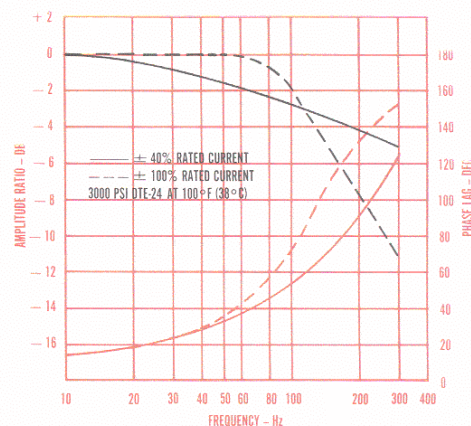
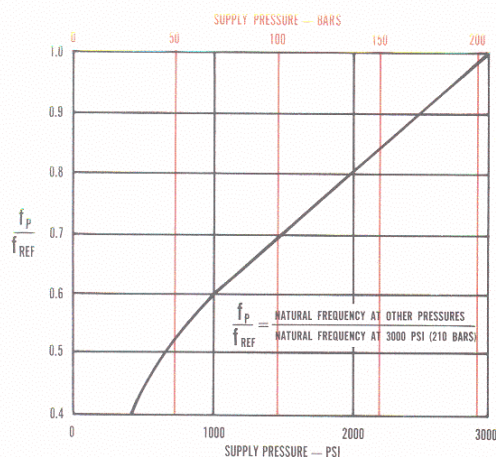

FIGURE 5 FREQUENCY RESPONSE OF 1 TO 5 GPM SERVOVALVES
FIGURE 8 FREQUENCY RESPONSE CHANGE WITH PRESSURE
**FREQUENCY RESPONSE** Typical response characteristics for 750 Servovalves are shown in Figures 5, 6 and 7. Servovalve frequency response will vary with signal amplitude, supply pressure, temperature, and internal valve design parameters. The variation in response with supply pressure, as expressed by the change in frequency of the 90° phase point, is given in Figure 8.